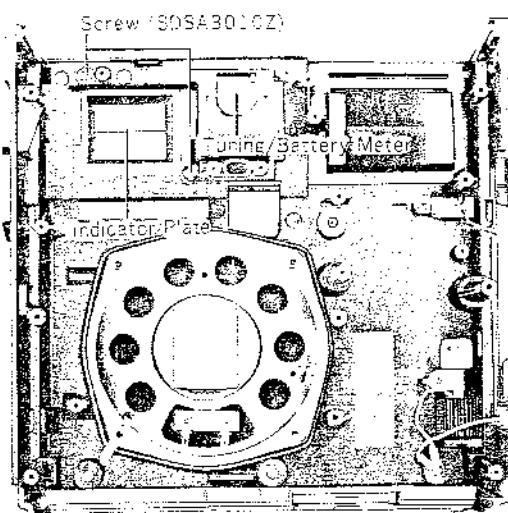

Fig. 16
3. Unfasten 2 screws fastening indicator plate indicated in Fig. 16 and disconnect the wires connected to tuning/battery meter.